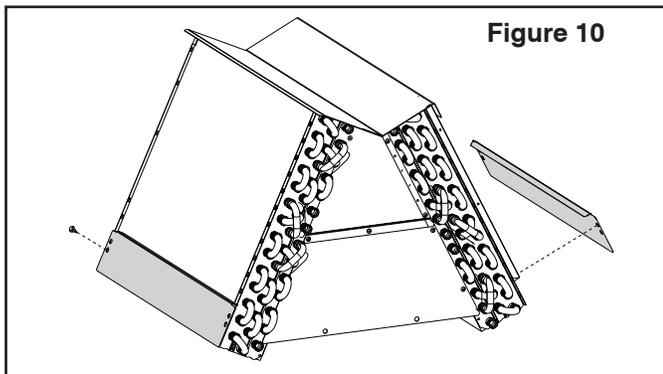

Figure 10
- c. On model 5TXCC009 only, remove the two outer water management baffles by removing the 5/16" hex screws and discard. See figure 10.
- b. On model 5TXCD010AS, installing the water diverter baffles is required for water management in downflow installations. Install the two outer water baffles provided in the documentation package to the drainpan using the provided 5/16" hex screws. These should be located as close as possible to the drainpan. See figure 10.
While not required, optional removal of some coil components will maximize airflow efficiency. On 5TXCA009AS only, remove the (2) outer water diverter baffles by removing the 5/16" hex head screws. See Figure 10.